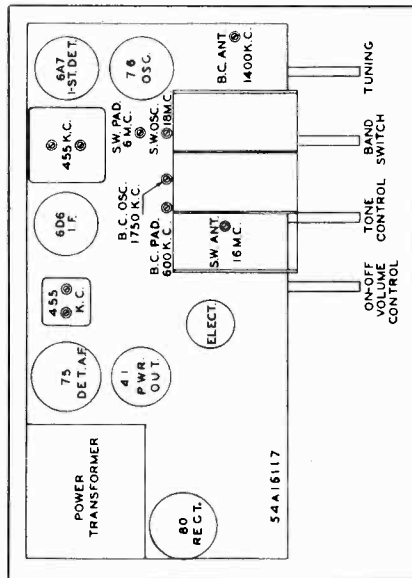

FIG 2 TRIMMERS — 6C and 8C Chassis
1. When the chassis is aligned on the service bench, the loop may be disconnected if the WHITE and BLUE pin terminals are clipped or wired together. See Fig 2 for trimmer locations.